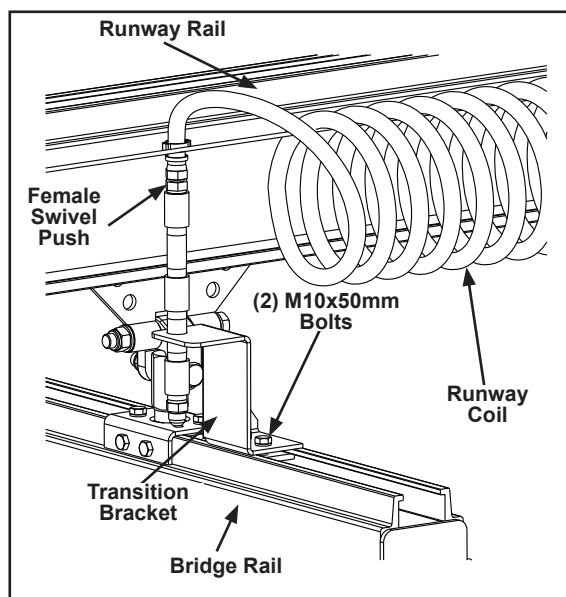

Figure 3-120
- Step 1. Attach transition bracket assembly to bridge rail. See Figure 3-120.
- Step 3. Tighten M10 bolts to secure transition bracket to bridge top rail channel. **Tighten until bolts are snug + $\frac{1}{4}$ turn.** Do not over tighten. Over tightening could cause bracket to bend. Attach trailing end of runway hose to transition bracket. See Figure 3-120.